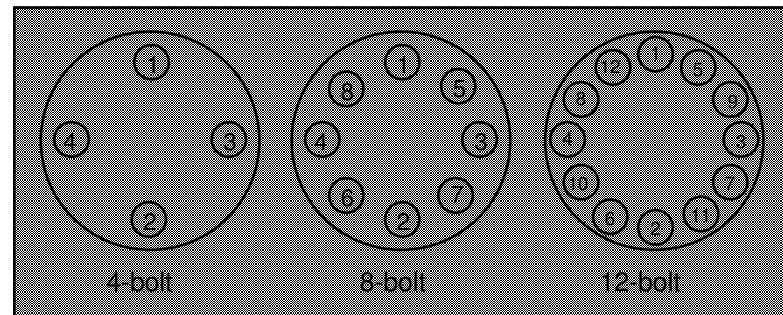

Figure 2-2. Flange Bolt Torquing Sequence
4. Place the remaining studs between the pipe flanges. Tighten the nuts in the sequence shown in Figure 2-2. Check for leaks after tightening the flange bolts
3. Install bolts in both process connections. Tighten the nuts in the sequence shown in Figure 2-2. Check for leaks after tightening the flange bolts.